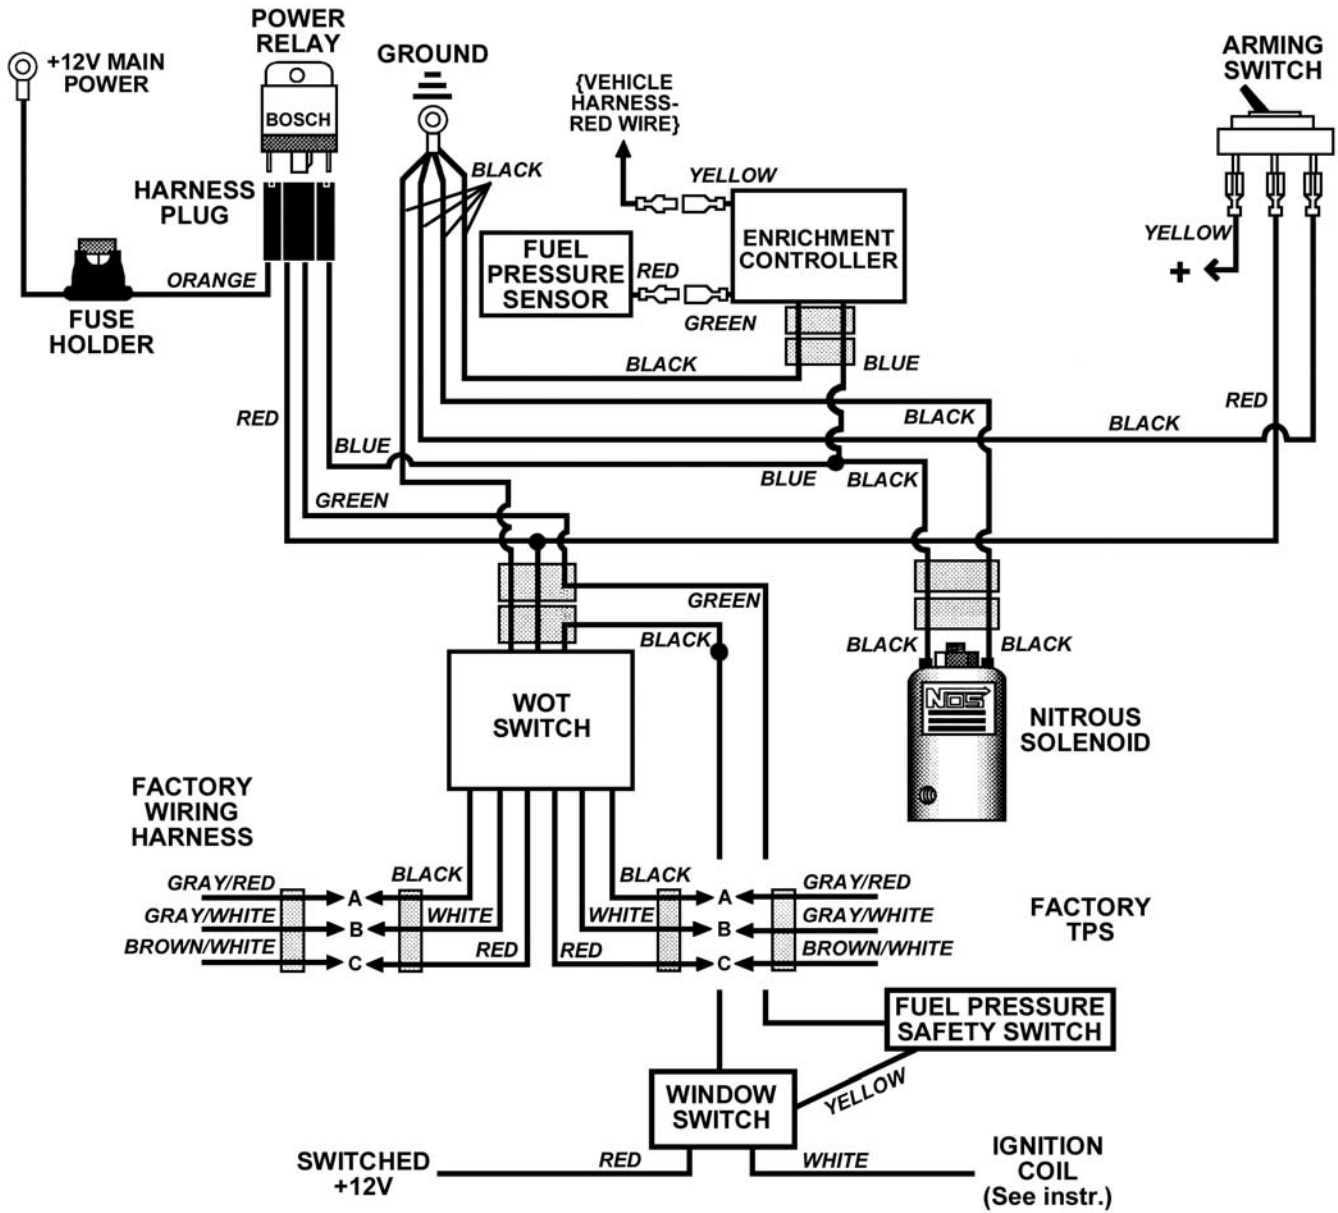
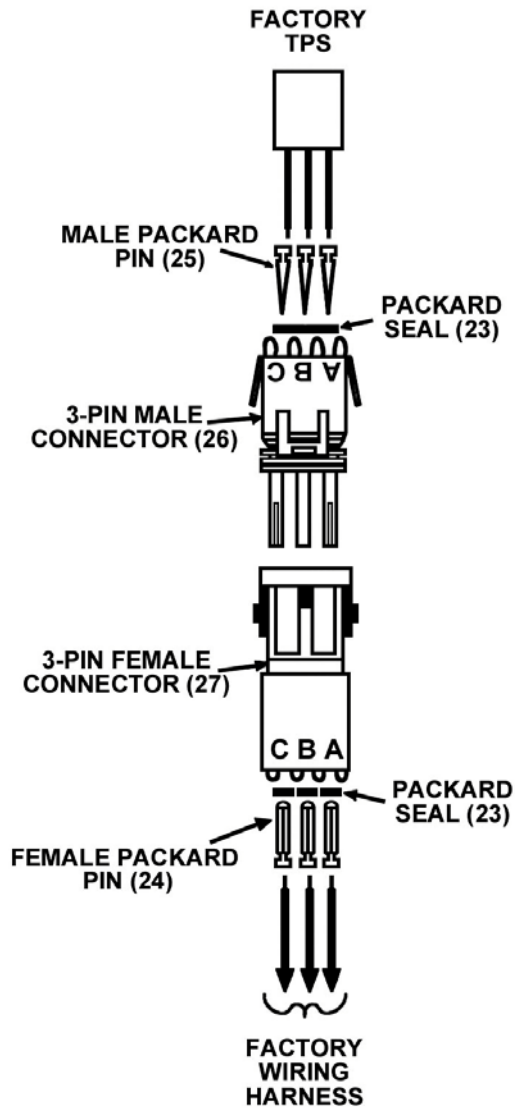

Figure 7 Wiring Schematic
Figure 8 Packard Connection Exploded View
Use the following procedures for the electrical system installation. See Figure 7 for the electrical wiring schematic.
1. Mount the WOT Switch (18) in a convenient location. The inner fenderwell is a good location. Use the supplied sheet metal screws to mount it, if desired.
3. Install the 3-pin Female Connector (27) with the Female Packard Pins (24) and the Packard Seals (23) on the TPS lead from the factory wiring harness. See Figure 7 for wiring color codes and Figure 8 for Packard Connection Exploded View. It is recommended to use Packard Connector tool PN 12814254 to crimp the connectors. If this tool is not available, it is recommended to carefully crimp the connector pins on with pliers, and then solder the wire to the pin.
4. Install the 3-pin Male Connector (26), Male Packard Pins (25), and the Packard Seals (23) on the open end of the factory TPS plug lead. See Figure 7 for wiring codes and Figure 8 for Packard Connection Exploded View.
5. Connect the male plug from the WOT switch (18) to the female plug on the factory wiring harness.
6. Connect the female plug from the WOT switch (18) to the male plug on the factory TPS.